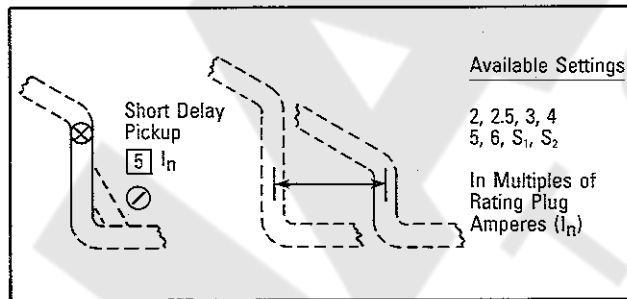

Fig. 4.3 Short Delay Current Pickup Settings
As illustrated in Fig. 4.3, eight (8) available settings range from 2 to 6 ( $I_n$ ) with two variable settings of S1 and S2. These variable settings depend upon the type of circuit breaker in which the trip unit is installed. Specific information on these settings is given in the supplemental instruction leaflet referenced in Sections 9.1 and 9.2 that is supplied with the circuit breaker. Specific information is also shown on the rating plug and on the applicable time-current curve.